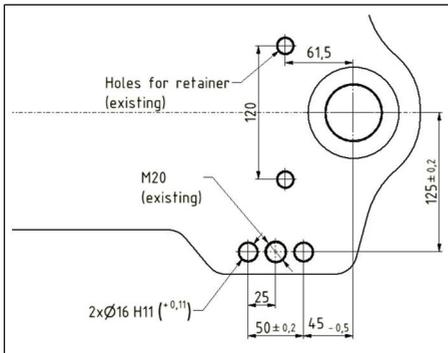

Figure 5 – Installation drawing
Installation: (see Figure 5)
- Drill two $\varnothing 16$ H11 holes into the ball-type drawbar according to the drawing below (see Figure 5) on the side, where the forced steering device should be fixed. In some ball-type drawbars you can find a countersink at the position where the $\varnothing 16$ hole should be placed.